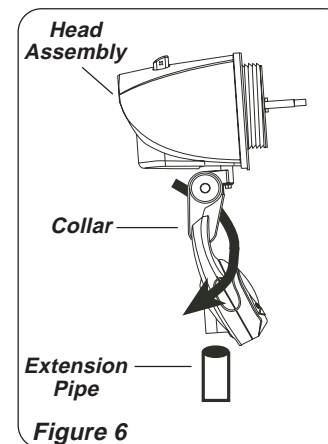

Figure 6
1. Place **Head Assembly** with **Collar** onto **Extension Pipe**. (**Figure 6**)